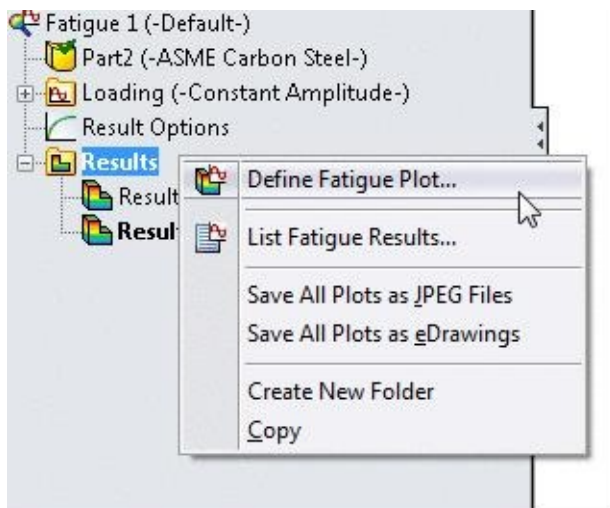
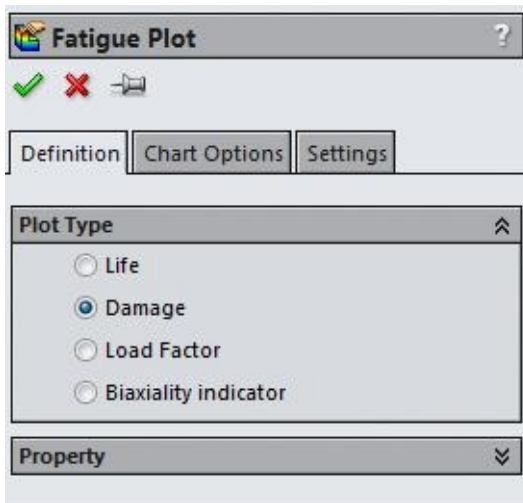

Figure-17. Define fatigue plot option
Figure-18. Fatigue Plot PropertyManager
- Right-click on the **Results** node and select the **Define Fatigue Plot** option; refer to Figure-17. The **Fatigue Plot PropertyManager** will be displayed; refer to Figure-18.